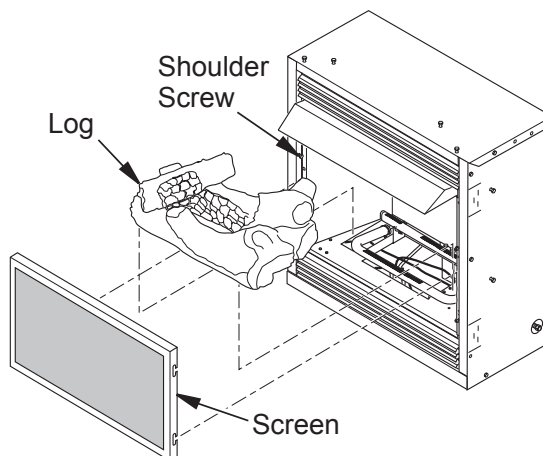

Figure 24 - Installing Log and Screen
1. Remove log packaging material and discard packaging. Gently place log over burner (see Figure 24). Do not allow log to contact flame. If flame contacts log, soot will be created.